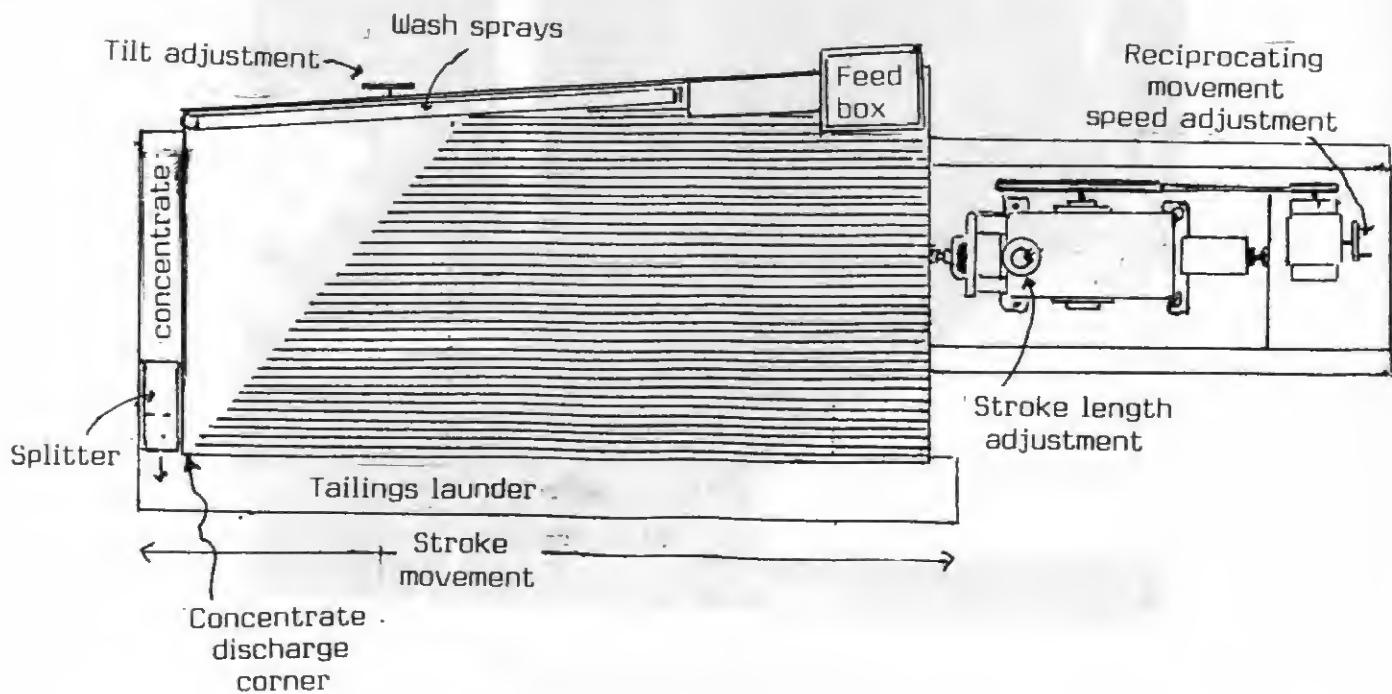

Fig. 8 The Wilfley Table
a. General Description (See fig. 8)
(iii) Water Wash: The feed edge of the table (See fig. 8) has a water spray bar. This water is adjusted so as to provide a gentle wash across the table.